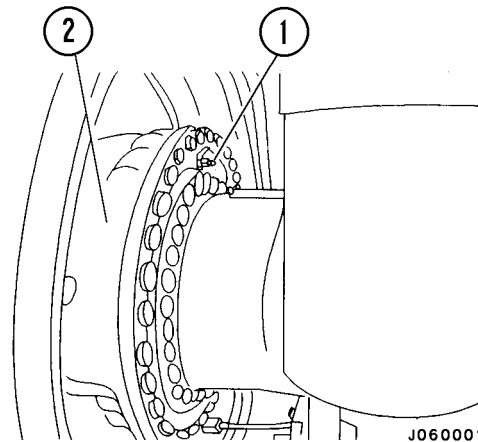

FIGURE 4-14. BRAKE HOUSING BLEED PLUG
2. Continue this procedure until air bubbles are no longer present in the oil flowing from the air bleed plug hole, then bleed the air from the wheel plug (1, Figure 4-14).